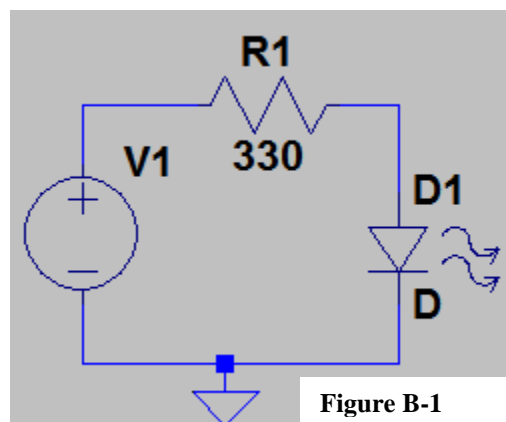

Figure B-1
- Disconnect the 330Ω resistor (or 470Ω if that is what you are using) and the LED from the 555 Timer circuit and connect them to the first Analog Discovery function generator (AWG1) and ground. Measure the input voltage with Channel 1 of the scope. It is not necessary to measure across the LED in this experiment. W1 and 1+ are connected to the left end of the resistor and GND and 1- are connected to the bottom end of the LED. The circuit is shown in Figure B-1.